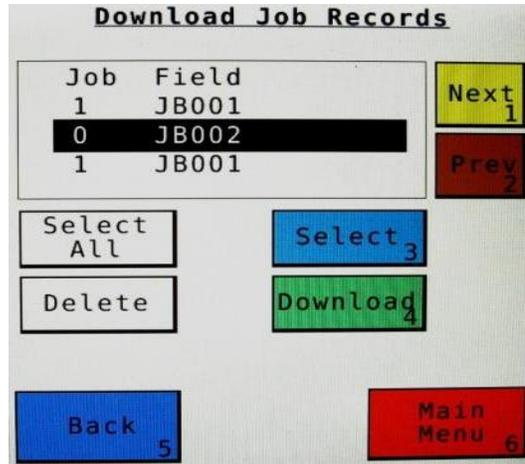

Figure 40
5. Selecting the **Download** key will open the Download Job Records screen (Figure 40). This screen lets you select jobs to download onto a USB drive. To download insert a USB drive into the port on the Dual Channel Processor. Select the job(s) you would like to download using the Next and Prev icons to highlight the job(s). Once the desired jobs are selected press the **Download** key. Press the **Download** key again to confirm. When the USB drive light goes off all the jobs selected will be saved. The jobs can then be opened on any computer with Excel or Notepad. To delete jobs highlight, select them and press **Delete** followed by pressing **Delete** again for confirmation. Press Back to go to the Job Records screen or Main Menu for the main screen.
7. Pressing the Select All key will select all jobs, except for the current job (0). To unselect press Back.